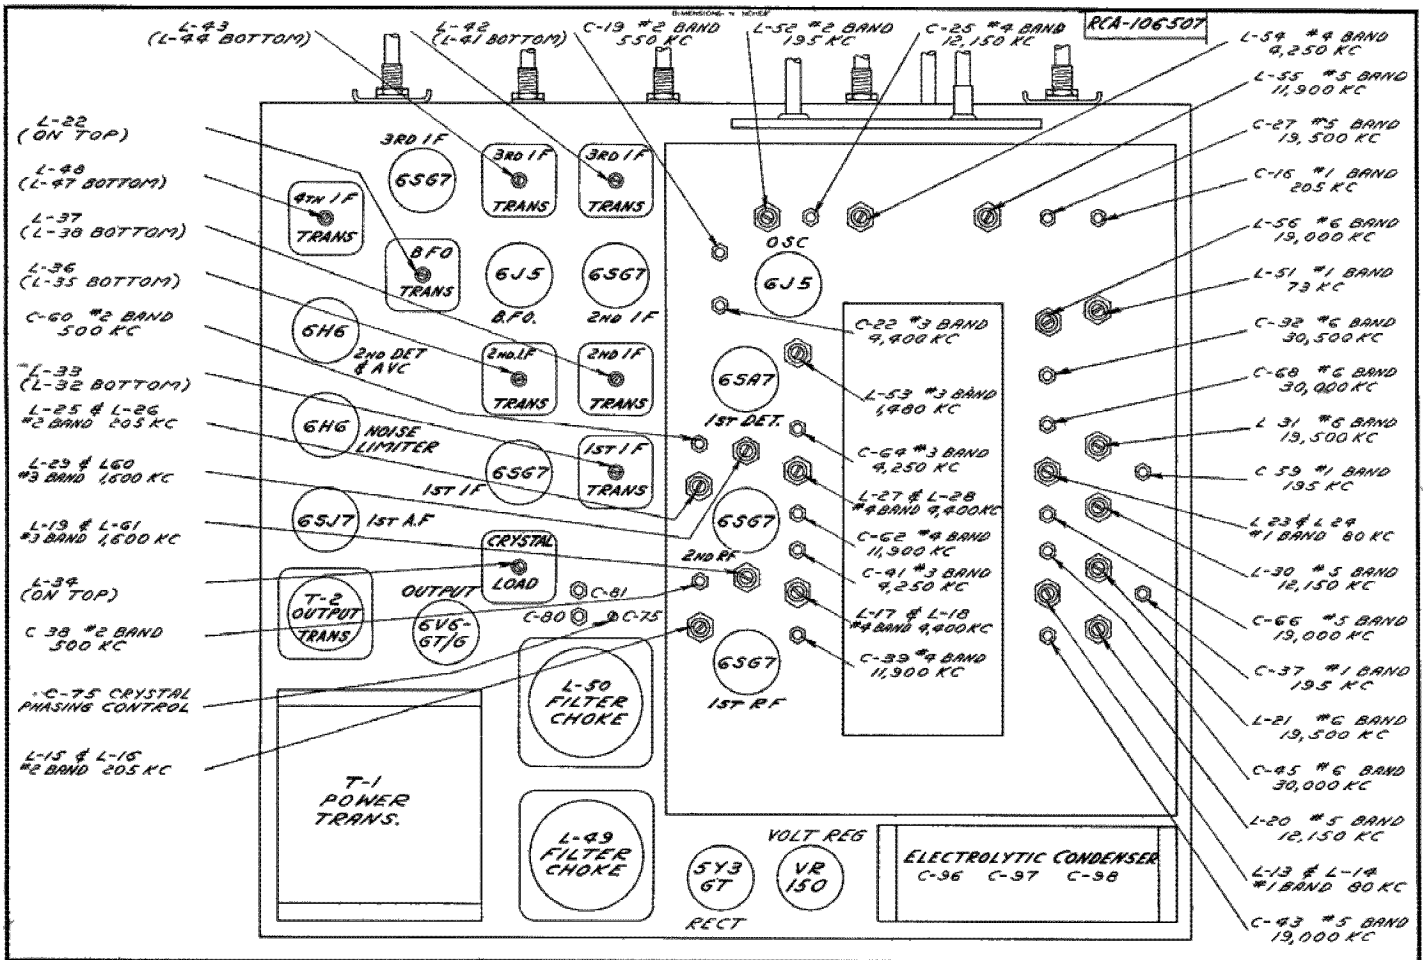

Figure 4.—General Purpose Communications Receiver—Alignment Layout.
**6.4-8 Adjustment of Beat Frequency Oscillator:—**Tune in a signal either R-F or I-F to exact resonance with Power-Transmit-Receive Switch at "Rec. Mod" (Fig. 1.). Turn on beat frequency oscillator by turning switch to "Rec. CW". If zero beat does not fall within the range of the BFO control, adjust BFO Trimmer L-22 (see Fig. 4) until zero beat occurs at the mid-point setting of the BFO control.